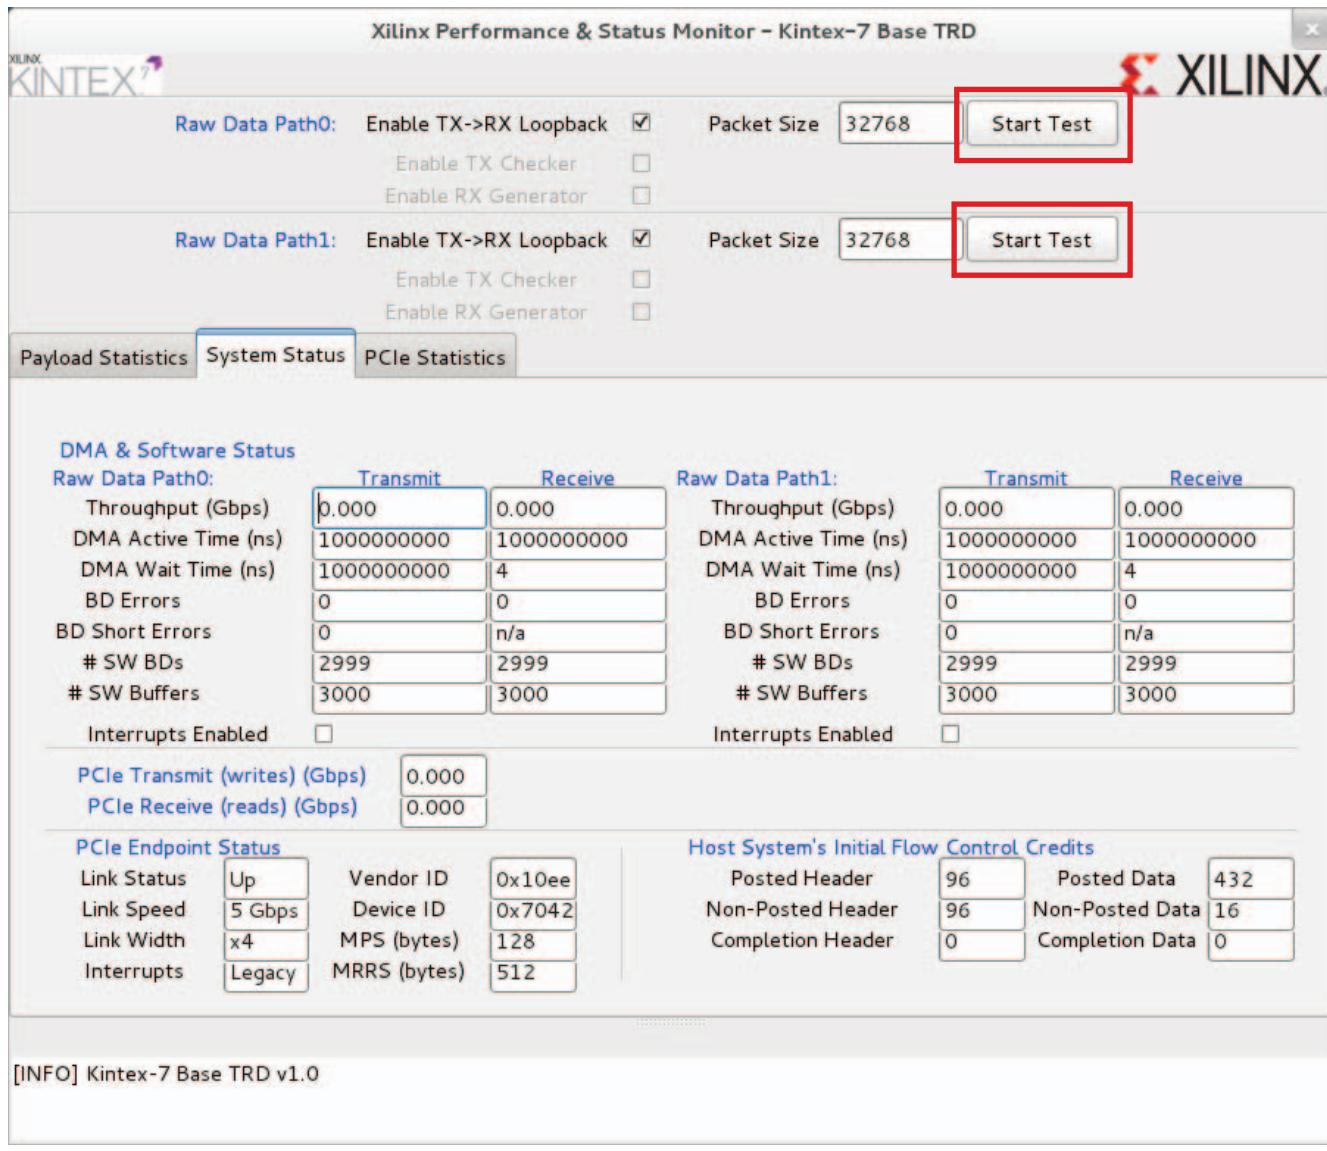

Figure 20: Start Data Traffic from the Performance Monitor
- a. Click **Start Test** on Raw Data Path0 as shown in Figure 20. This enables the driver to start generating the data for Raw Data Path0.
- b. Click **Start Test** on Raw Data Path1 as shown in Figure 20. This enables the driver to start generating the data for Raw Data Path1.